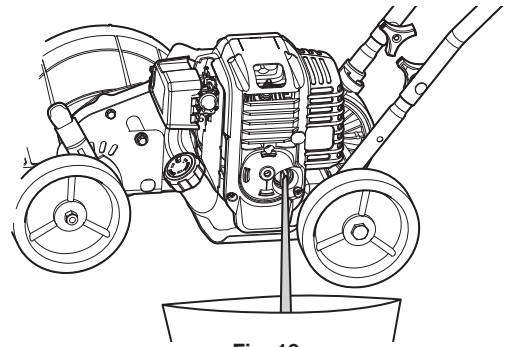

Fig. 16
- If the oil level is too high, tip the unit and drain the excess oil into an appropriate container (Fig. 16).
3. Tip the unit vertically to pour the oil out of the oil fill hole and into a container (Fig. 16). Allow ample time for complete drainage.